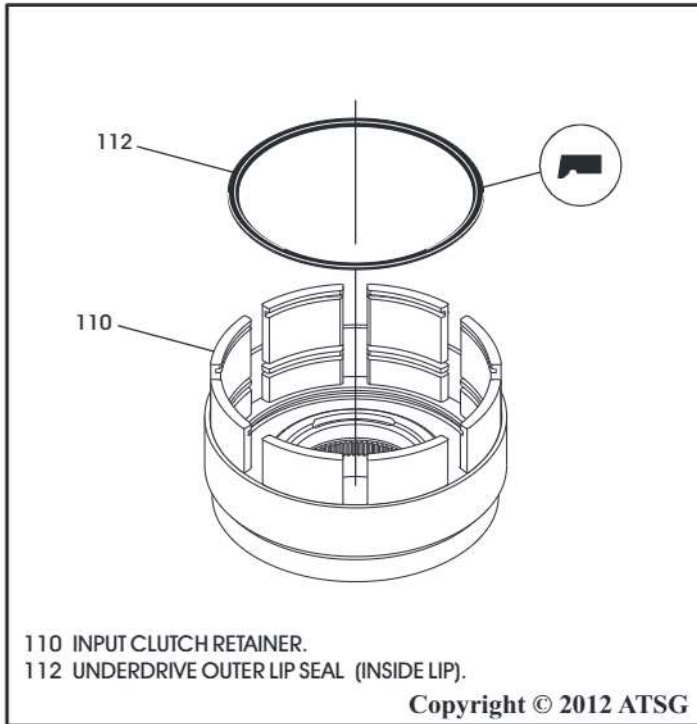

Figure 181
13. Install the underdrive outer lip seal (inside lip) into the groove inside the input clutch retainer, as shown in Figure 181.